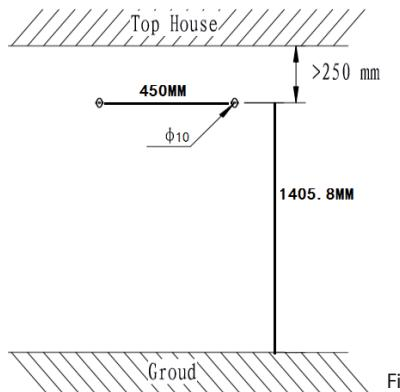

Fig 2
1. Please drill 2 holes of $\phi 10$ as per Fig 2 showed dimensions.